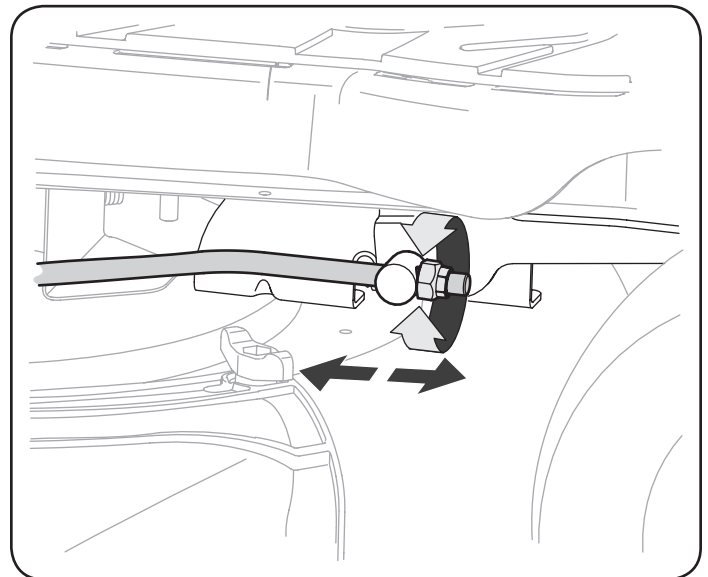

Figure 23
1. With the tractor parked on a firm, level surface, place the lever for lifting the cutting deck into the middle position (3) and rotate the blade so that it is aligned with the front and rear of the tractor.
3. Locate the flange lock nut on the front end of the PTO Lift Rod. See "Figure 23".